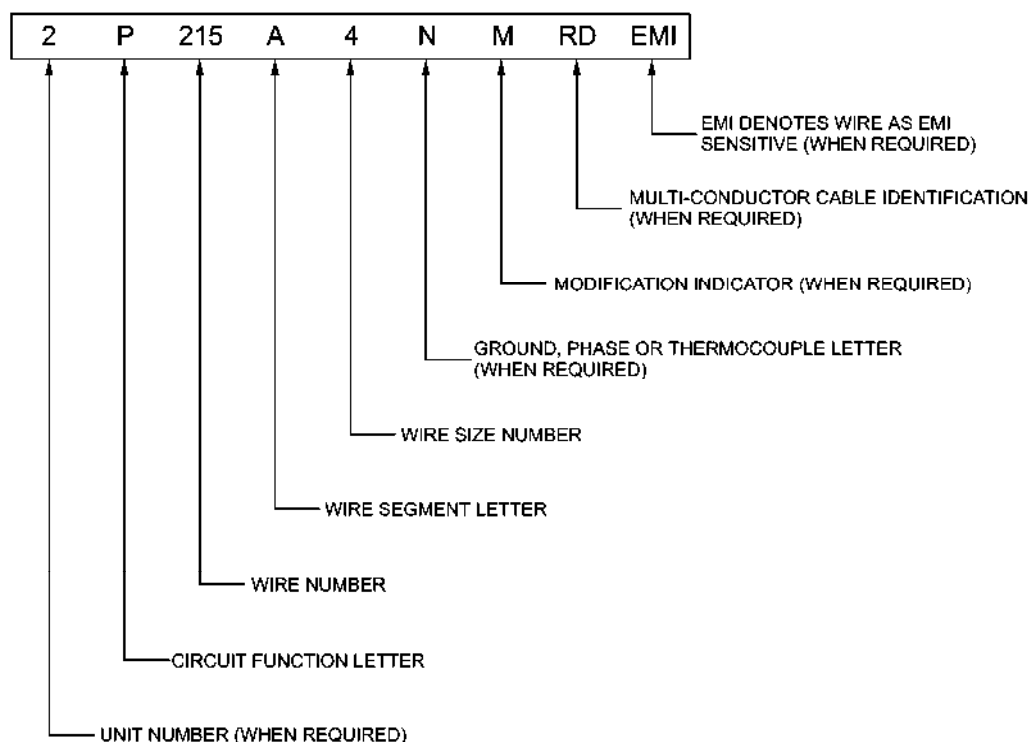
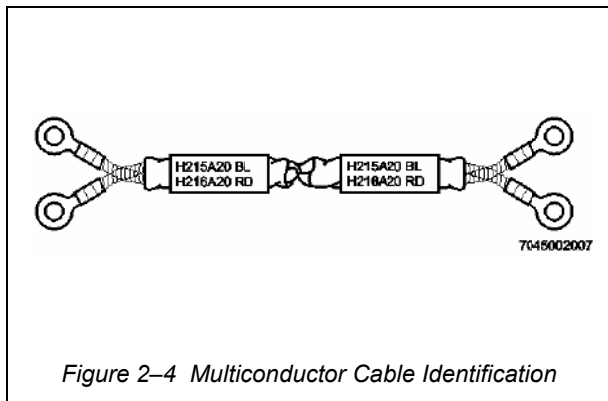

Figure 2-1 Example of Wire Identification Coding
Figure 2-4 Multiconductor Cable Identification
3. The basic wire identification code used for all circuits (refer Table 2-1) is described in the following paragraphs and Figure 2-1.
21. A current method for identifying EMI sensitive wires and cables consists of a suffix to the wire number that identifies the susceptibility to EMI and indicates that specific handling instructions are detailed in the aircraft wiring manual. This suffix shall remain at the end of the significant wire number regardless of the requirement for any other suffix. Figure 2-1 provides an example of a wire identification number with the EMI identifier included.
29. The identification code, as shown in Figure 2-1 should be applied to wires either horizontally or vertically. The preferred method of identification is to apply the identification marking directly on the wire or cable with a laser wire-marking machine. Use this method wherever possible. If the wire insulation or outer covering will not mark clearly, lengths of insulating tubing (standard or heat shrink) may be laser marked or hot stamped with the identification code and installed on the wire or cable. The following types of wire may require identification by means of sleeves:
33. Multi-conductor cables may be identified by marking directly onto the outer sheath using a laser marking machine or with pre-marked sleeves (refer Figure 2-4) installed as described in paragraph 44. Immediately following each wire identification number, indicate the colour of the individual conductor as detailed in Figure 2-1 using the following abbreviations: